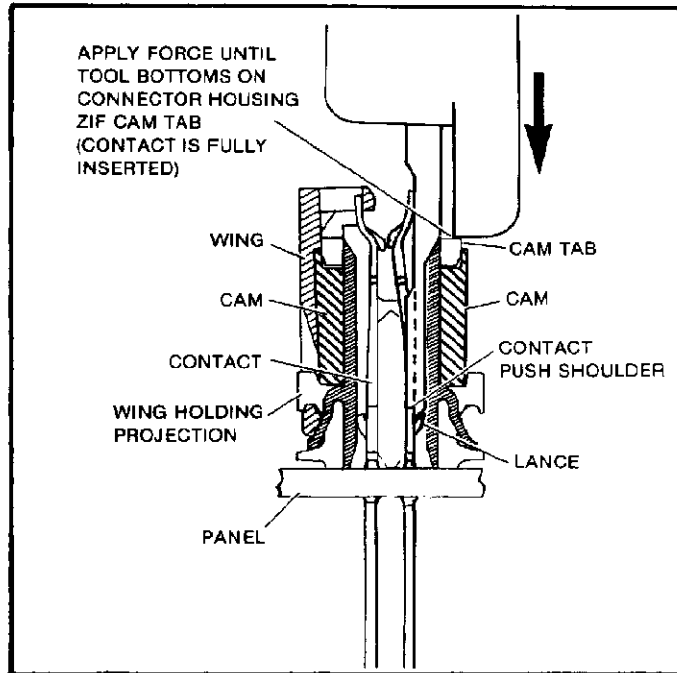

Figure 4
- (b) Place contact replacement tip of tool on lance side of contact down against push shoulder of contact and push contact down until tool bottoms on cam tab at top of housing. See Figure 4.